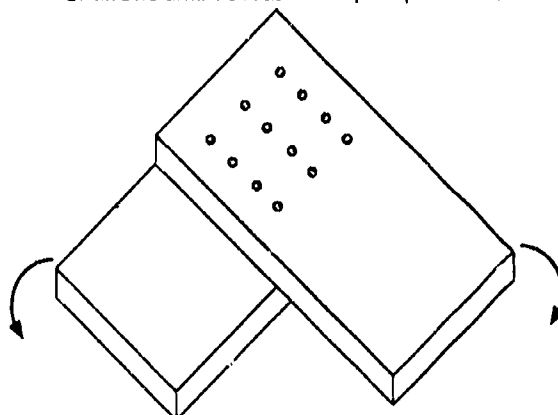

Figure 10. Test 4: if the boards are at right angles, hold the free ends in your hands and apply pressure in the directions indicated by the arrows.
- a. Holding the free ends of the boards in your hands, attempt to push the two ends together as shown in Figure 10.